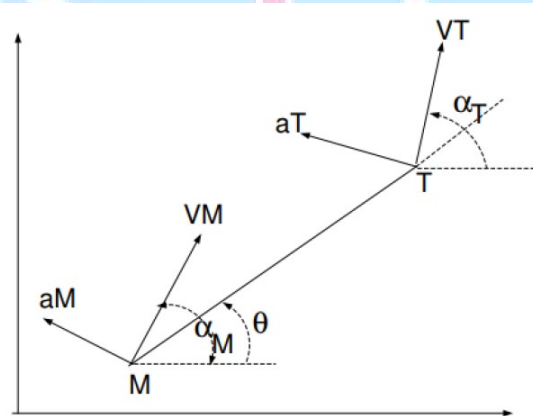

Figure 2:
7. In a Missile Target engagement problem, the missile acceleration,  $a_M$  is the control variable perpendicular to the Missile velocity vector. The engagement geometry is as shown in Fig.2. Develop an optimal control problem i.e., TBVP, with specified state variable functions at defined final time.